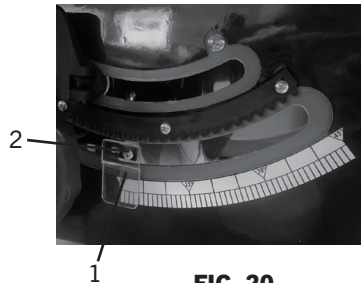

FIG. 20
If the blade is at a 90° angle and the bevel indicator (1) (Fig.20) does not indicate 0° on the scale, an adjustment can be made,
3. Loosen the screw (2) (Fig.20) which secures the bevel indicator (1). Re-adjust the position of the bevel tilt angle indicator so it aligns with the 0° on the bevel scale.
4. Retighten the screw (2) (Fig.20).